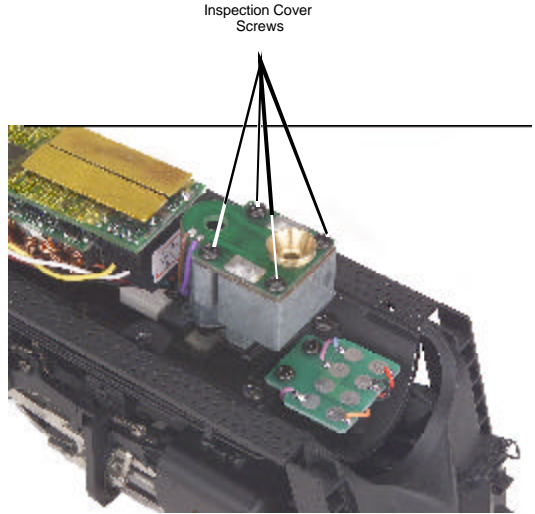

Figure 14
1. Once the boiler has been removed, remove the inspection cover (Fig. 14). Inspect the wick; if it is darkly discolored and hard, it should be replaced.